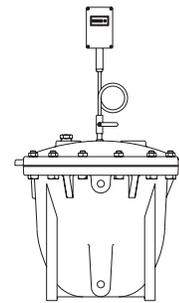

Figure 5
If a cycle counter is required the installation will be the same for all model pumping traps. There is a 1/2" connection on the cap of the pumping traps where the cycle counter may be mounted. It is very important that a steel siphon or "pig tail" be used prior to the cycle counter to avoid any damage to the cycle counter. See figure 5.
Connect the motive force piping (steam, air or inert gas) to the inlet connection on the pump cap. Proper piping and trapping of the motive supply line must include a strainer, check valve, properly sized drip leg with mud pocket, and drip trap. The drip trap discharge line should be connected to the reservoir piping or vented receiver when practical. See figure 5 and 6 on page 7. It is recommended to install a union near the motive inlet (valve seat) to provide quick access to the externally removable seat.
**FIGURE 5:** Condensate drainage to vented receiver with overhead condensate return. Use of the Pumping Trap, combined with proper sizing of the steam trap and receiver assures successful coil drainage under low pressure conditions.